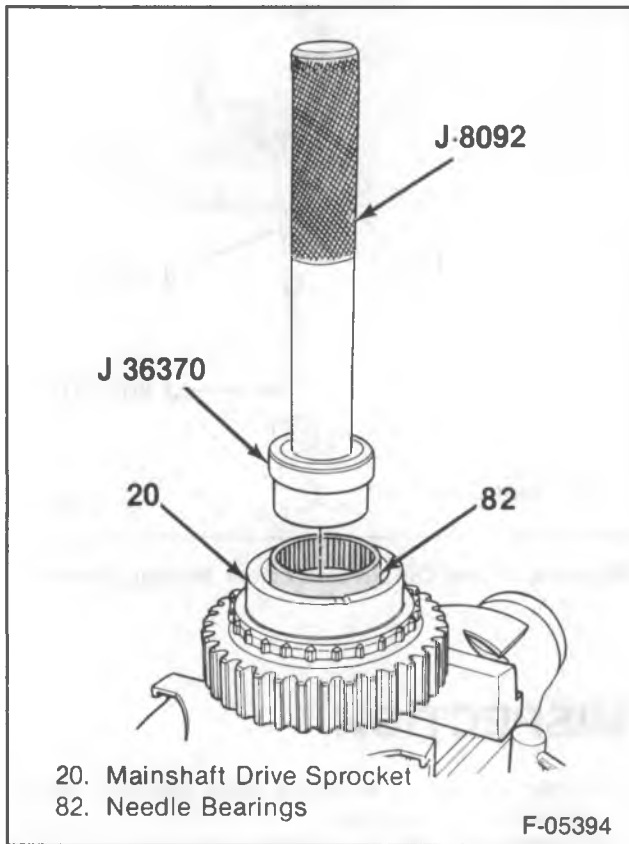
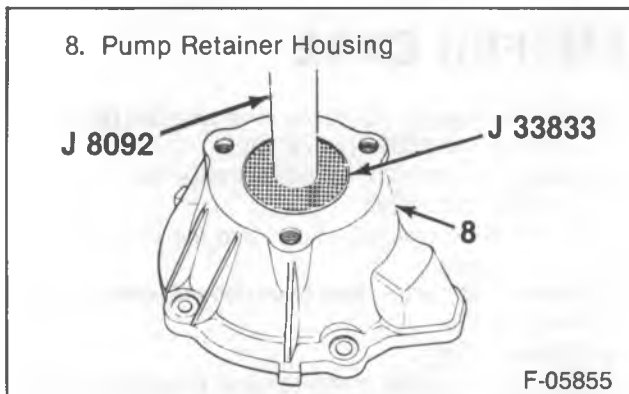

Figure 10—Installing the Needle Bearing to the Front Drive Sprocket
Figure 11—Pump Retainer Housing Bearing Installation
Install or Connect (Figures 10, 11, and 12)
1. Needle bearings (82) to the drive sprocket (20) using J 36370 and J 8092 (figure 10).
2. Needle bearing (24), to the rear case half (17) using J 36372 and J 8092.
3. Bearing (61) to the front case half (45) using J 9092 and J 33833.
4. Retainer (60).
5. Bearing (6) to the pump retainer housing (8) using J 33833 and J 8092 (figure 11).
6. Bearing (84) to the input gear (38) using J 36372 and J 8092.